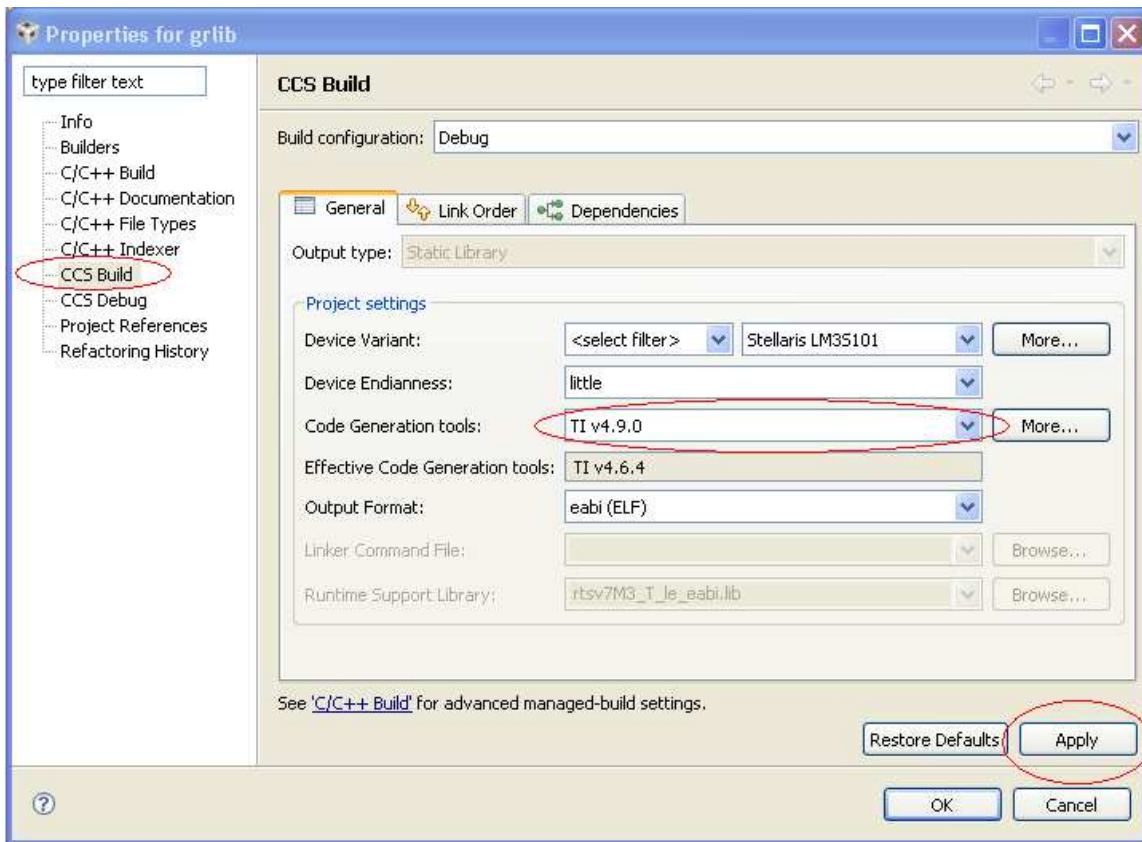

Figure 29. Properties for glib
2. Go to the Project menu → select Properties to open the Project properties window as shown in Figure 29.